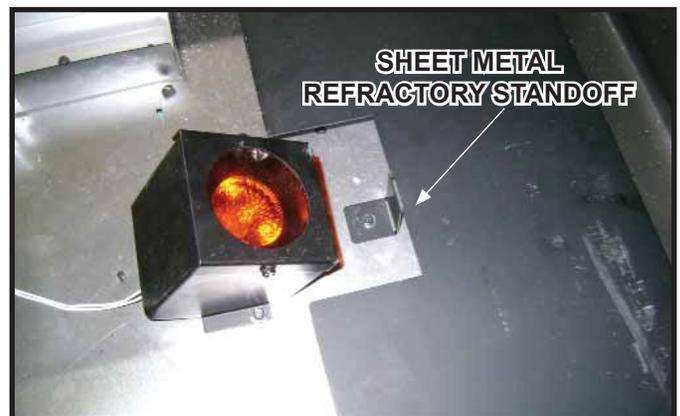

Figure 14.13 Accent Light Bulb Installation Completed
1. Remove the screw that secures the two bottom sheet metal refractory standoffs that are installed around the left and right accent light assemblies. See Figure 14.13.
4. Reinstall the two bottom sheet metal refractory standoffs with one screw each. See Figure 14.13.